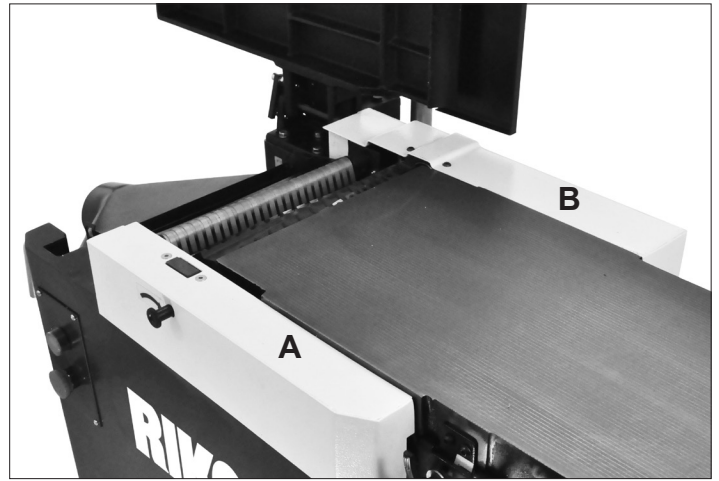

FIG. 27
3. With the outfeed table up, the Front Cover (#136, A) and Rear Cover (#131, B) must be removed to access the bolts that will adjust the feed rollers' pressure. FIG. 27.